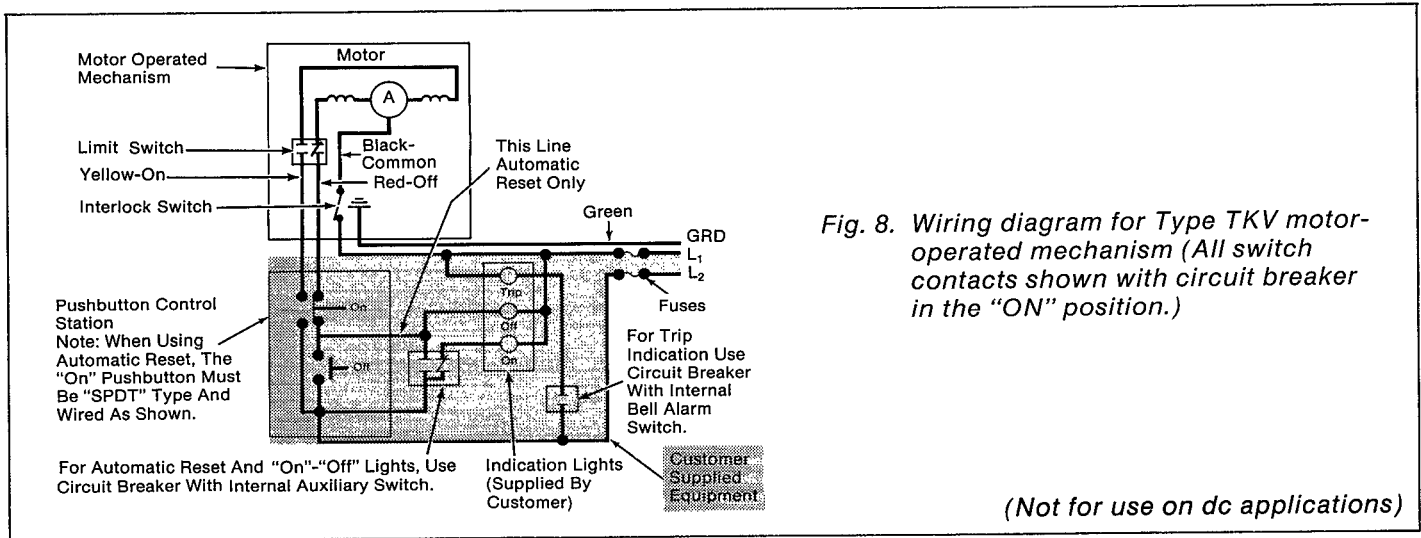

Fig. 8. Wiring diagram for Type TKV motor-operated mechanism (All switch contacts shown with circuit breaker in the "ON" position.)
For automatic reset, an auxiliary switch, which is available as an accessory, is used to return the breaker to the OFF/RESET position after it has tripped. The switch is mounted inside the breaker and wired in parallel with the OFF button. When the breaker trips, the switch closes, moving the breaker handle to the OFF/RESET POSITION. After the motor-operated mechanism has reset the breaker, the limit switch again opens the circuit. To use AUTOMATIC/RESET, the ON push button must be the single-pole, double-throw type and wired as in Fig. 8. (The AUTO/RESET scheme applies to ac devices only and is not applicable for dc applications.)
7. Electrically test per specified electrical data, Table 2. Refer to Fig. 8 for schematic and auto/reset diagram.